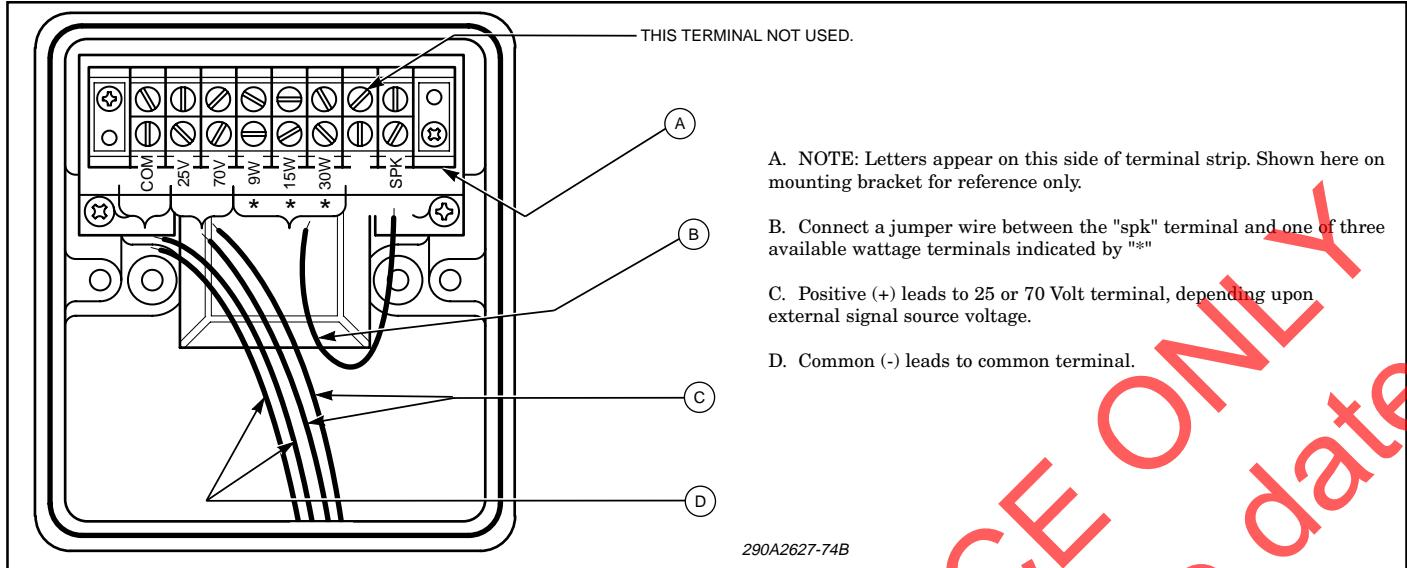

Figure 3. Internal Multi-tap Wiring Set-up.
3. Create a 4-inch long jumper using 14 - 22 AWG wire. Connect one end of the jumper wire to the terminal marked with the desired wattage (see figure 3). Connect the other end to the terminal marked "SPK".
For proper operation, the speaker wire should be connected to one (1) of these terminals as indicated in figure 3. The remaining two (2) wattage terminals are not used.
- A. After installation is complete, be sure to test the system to verify that each speaker operates satisfactorily. If it is found that the unit is too loud for its location, a lower wattage tap may be selected. Carefully remove the housing cover and move the speaker internal yellow lead to a lower wattage tap (see Figure 3). Reinstall the housing cover and retest.